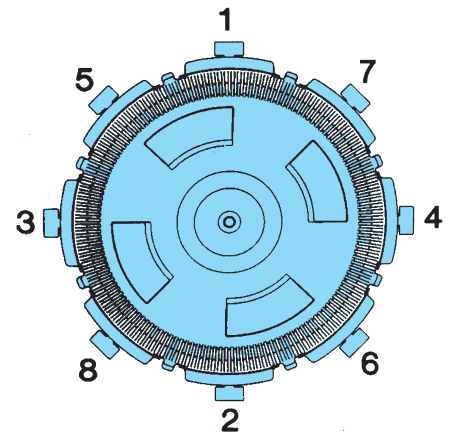

Abb. 1 S8D110
5. Install clamp bolts and clamps (see Figures 1 and 2). Do not tighten clamps yet.
6. See Figures 1 and 2 for clamp tightening sequence. Tighten all clamp knobs securely hand tight.